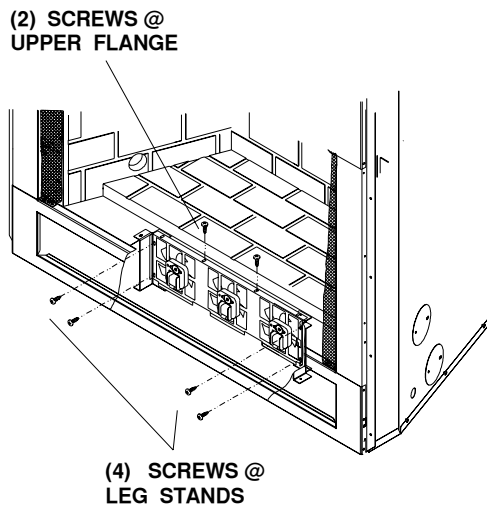

Figure 4 – Mounting the Blower
6. Place the fan assembly with the blades pointing towards the rear of the fireplace and in between the two leg stands. See **Figure 4** on page 2.
7. Using 2 of the screws provided, fasten the upper flange of the blower bracket to the hearth pan. Then fasten the end flanges to the leg stands with the remaining 4 screws. See **Figure 4** on page 2.